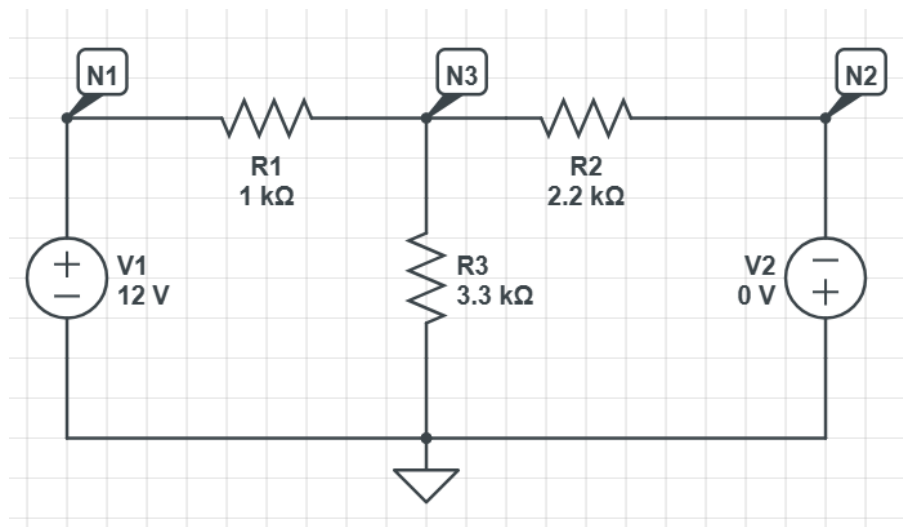

Figure 4.4.2: +12 V source is activated
1. Connect the circuit as shown in Fig. 4.4.2.